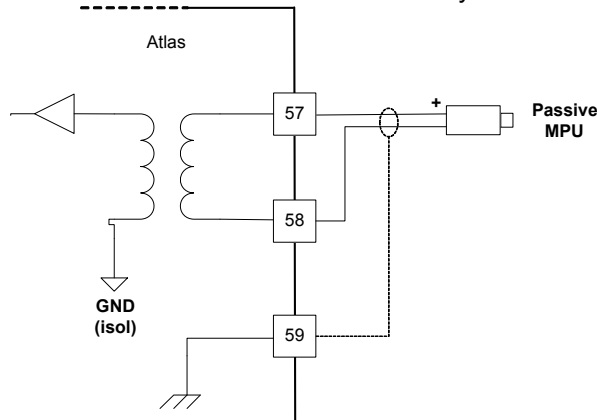

Figure 7-4. Wiring Example—MPU Interface to the Analog Combo Board
- Refer to Figure 7-4 for speed sensor wiring.